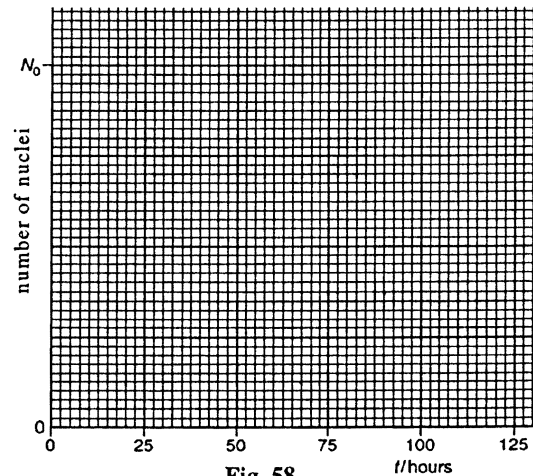

Fig. 58
- (ii) A fresh sample of radioactive material contains N_0 nuclei of Thorium-231 and no Protactinium-231 at time $t = 0$. Assume that Protactinium-231 is stable. On Fig. 58, sketch graphs to show the variation with time t of the number N of nuclei in the sample which are
- (iii) Using Fig. 58, or otherwise, deduce the age of the sample of radioactive material when